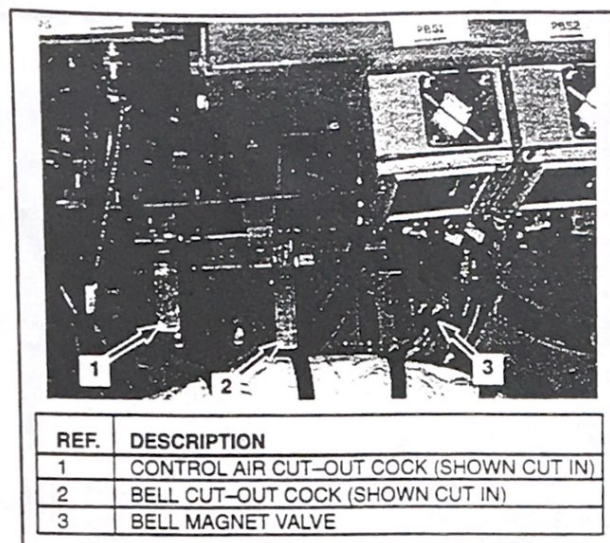

FIG. 26. CONTROL AIR AND BELL CUT-OUT COCKS. E-42742.
6. Control Air Cut-Out cock – (Item 1, Fig. 26)
7. Bell Cut-Out cock – Located in air brake compartment (Item 2, Fig. 26) and accessed from operator's cab (Item 9, Fig. 3).